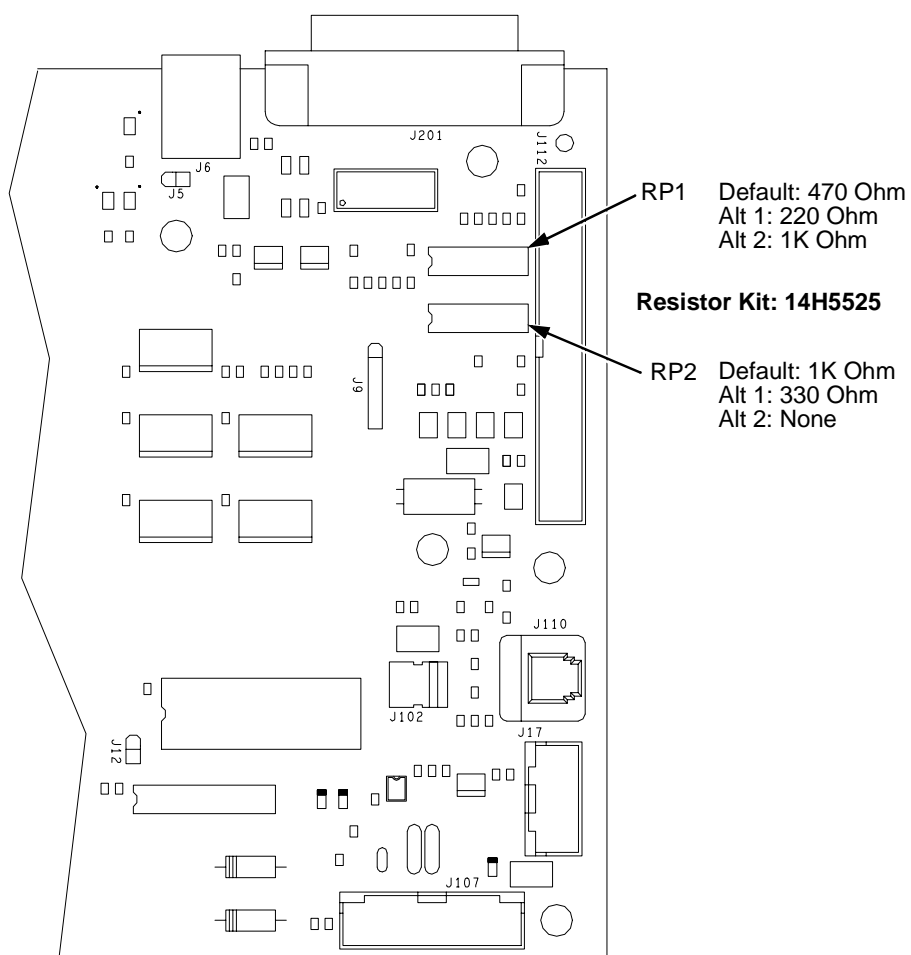

Figure 38. Terminating Resistors, Removal/Installation
For parallel interface configurations, the printer is equipped with 470 ohm pull-up terminating resistors and 1K ohm pull-down terminating resistors on the controller board. These are suitable for most applications. (See Figure 38, page 236.)
3. Locate the terminating resistor packs. (See Figure 38, page 236.)
1. Using a chip installation tool, install the resistor packs in the correct socket. (See Figure 38, page 236.)